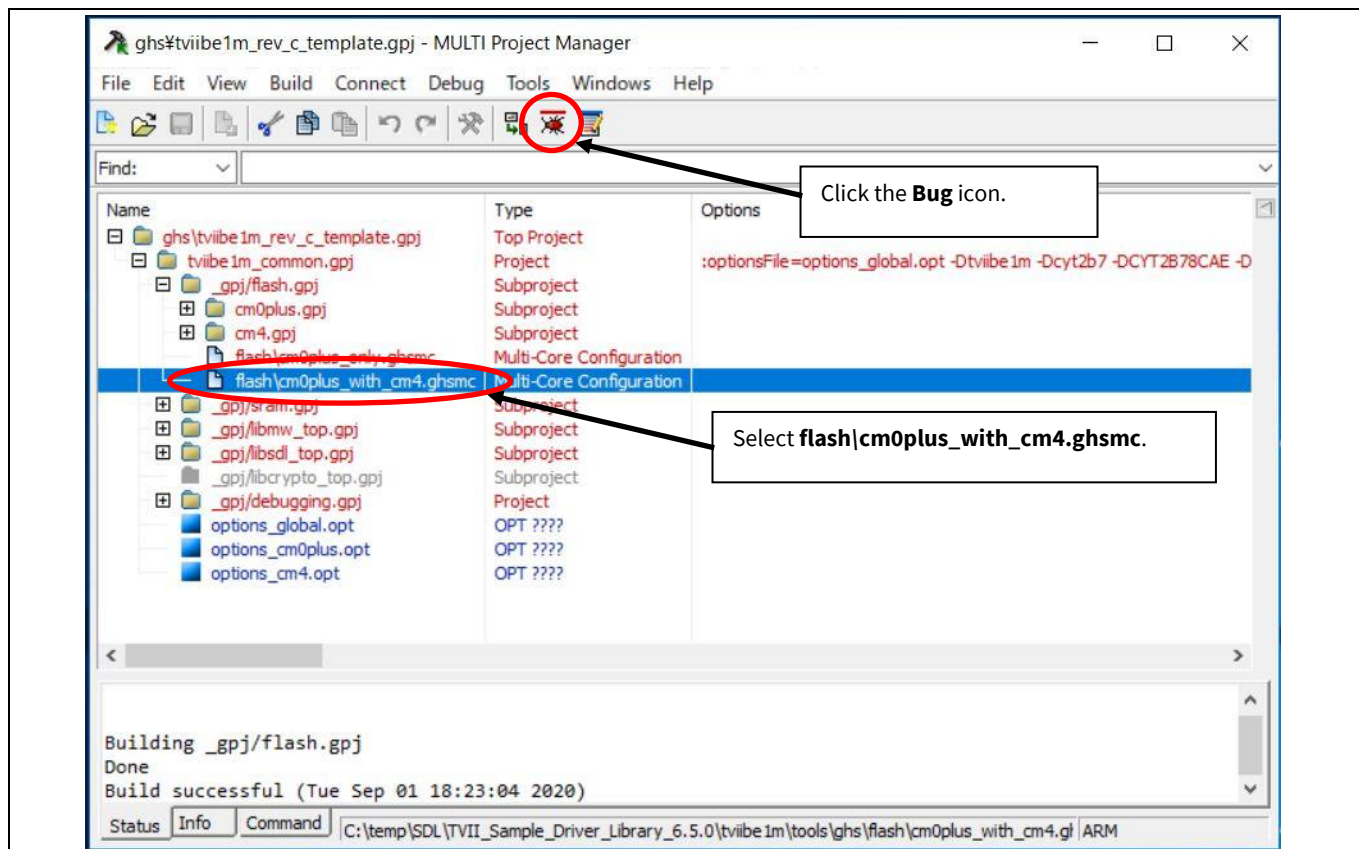

Figure 15 Debug the project of SDL project
- For execution on the Flash memory, select `flash\cm0plus_with_cm4.ghsmc` and click the **Bug** icon as shown in **Figure 15**. Debugging of the program on the Flash memory begins.